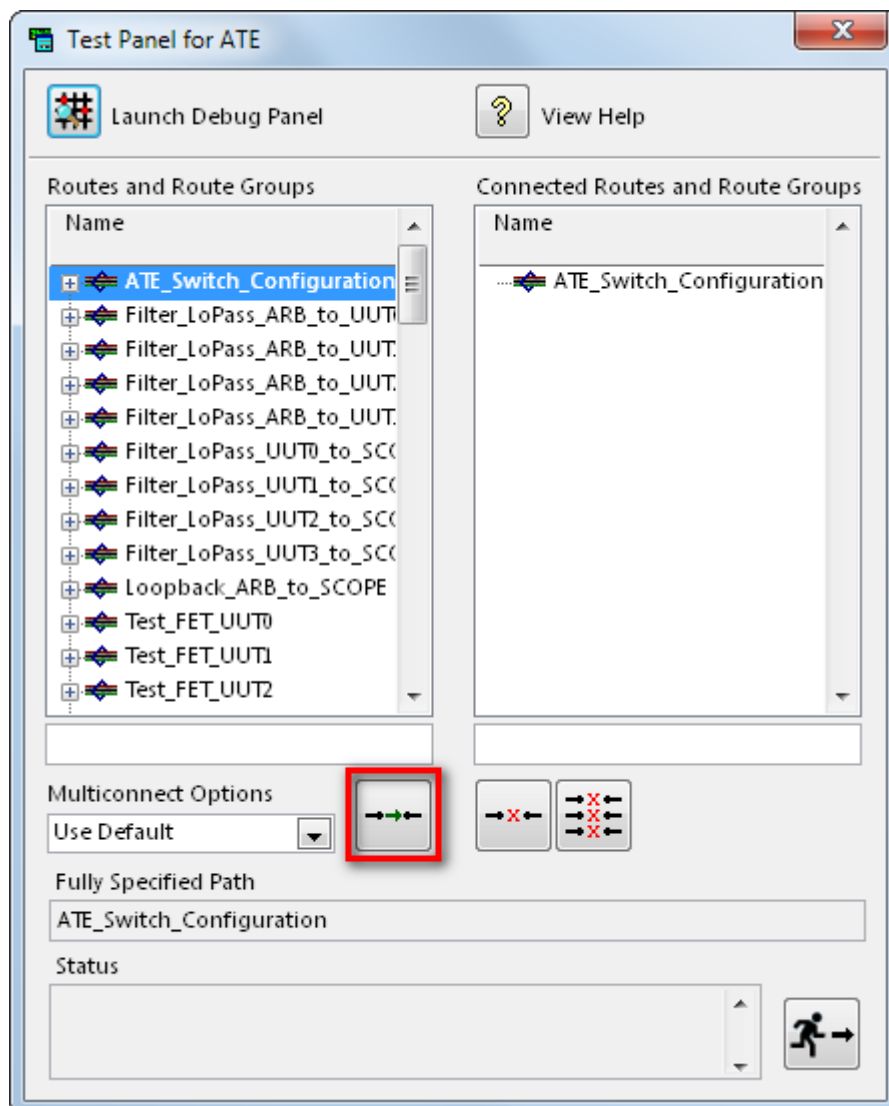

Figure 1-4. Switch Executive Test Panel
- Click the **Connect Selected Route or Route Group**  button to connect the route group in the switch hardware, as shown in Figure 1-4.
- If you do not receive a result in this range or if the LED is not illuminated, verify that the switch configuration discussed in Figure 1-4 is correct.